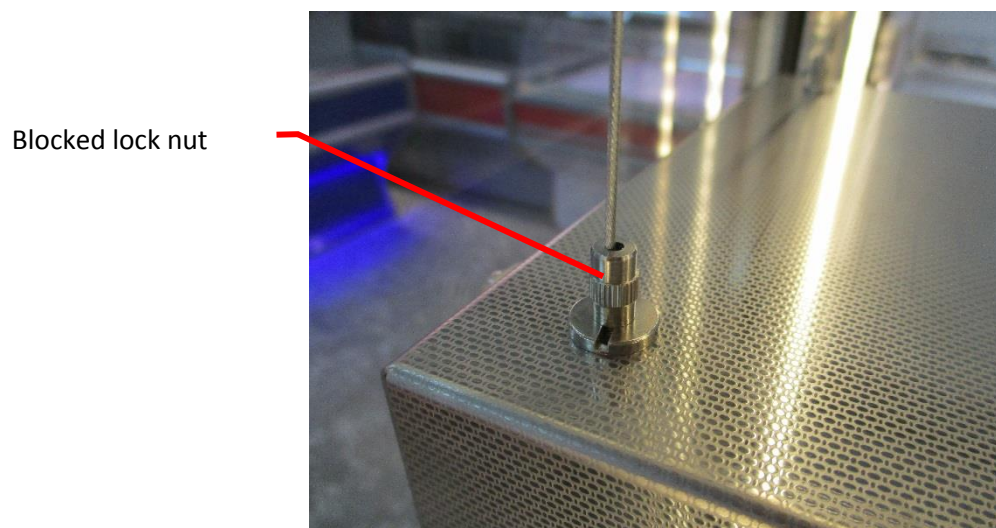
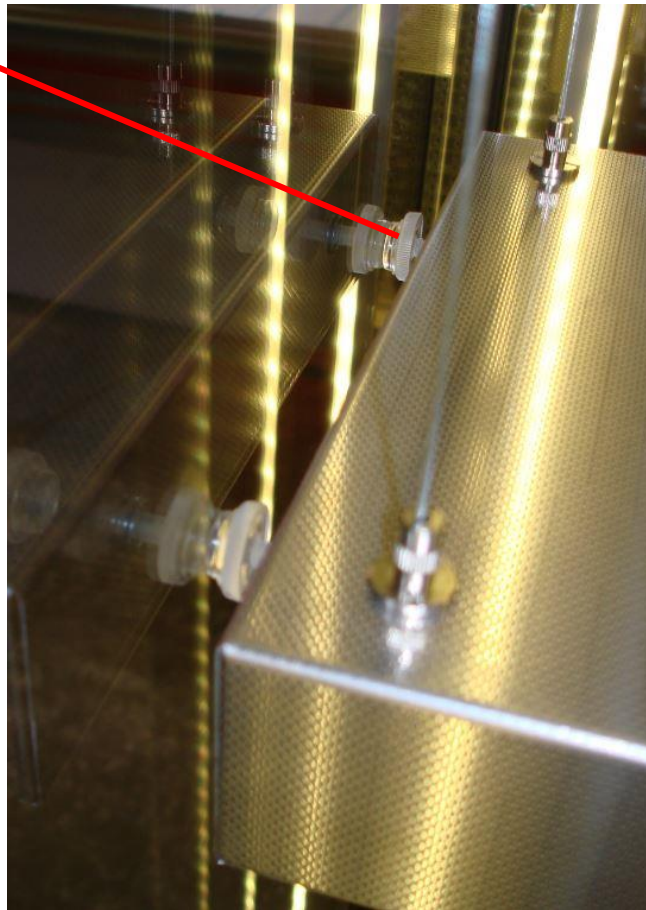
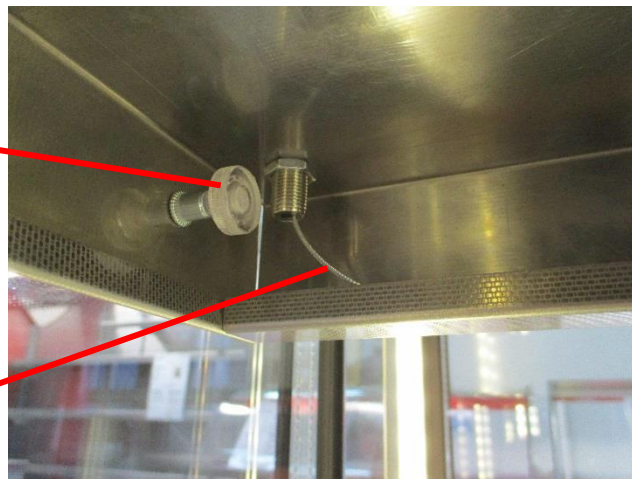

Figure 4.
Figure 5.
Figure 6.
- 4) After hanging the shelf it is necessary to set it at the suitable height and block the cables by screwing the lock nuts in the cables blockages (*Figure 4*). Then expand the shelf between glass panes so to enable its free rocking – unscrew expansion knobs at the equal distance on each side of the shelf so it lean against the glass pane and block the shelf (*Figure 5, Figure 6*). It supposed to be done by slightly pressing on the shelf so to stretch the cables. During pressing on the shelf it is necessary to tighten the lock nuts.
5) At the end it is necessary to hide the rest of the hanging cable under the shelf (Figure 6).